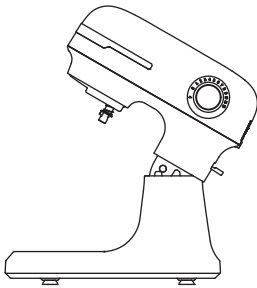
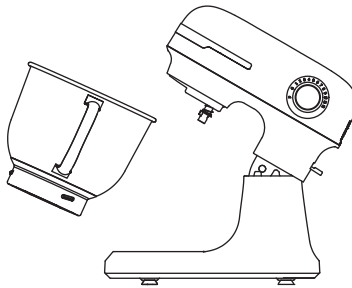

Fig.2
Fig.3
- 1.Mix the food ingredients thoroughly in accordance with the detail in the recipe; Then lift up the unlock lever(4) and swing up the drive arm.Fig.2 Fig.3